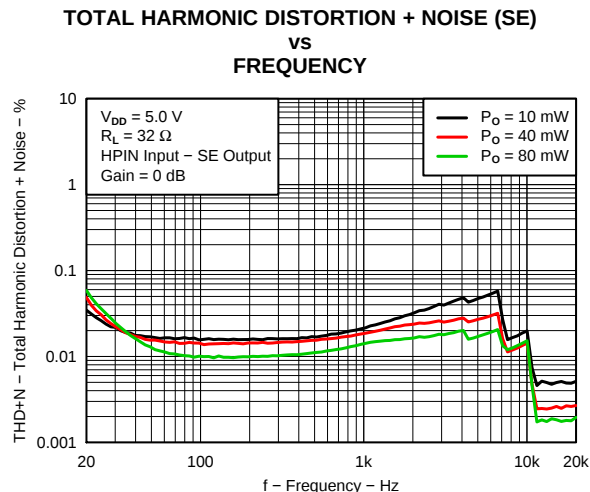
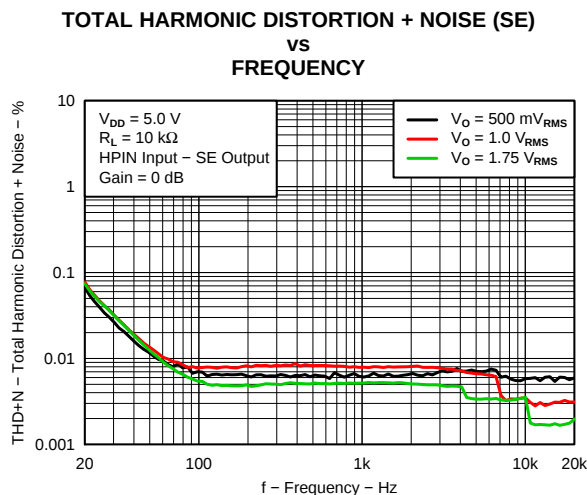

Figure 5.
Figure 6.
| THD+N    Total harmonic distortion plus noise (SE)  | vs Frequency          | Figure 5, Figure 6           |